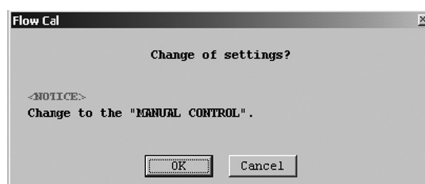

Fig.42
- ③ After filling in all the fields required, click on "OK" button. A message box as shown in Fig. 42 then appears. Clicking on "OK" at this window changes the previous settings to the new settings just entered. However, the flowmeter output also changes with the changes in settings made. For safety's sake, therefore, in applications where the flowmeter output controls a valve (s) or other devices, it is necessary that the control loop be switched to manual control to ensure that the control loop is unaffected by the flowmeter output.